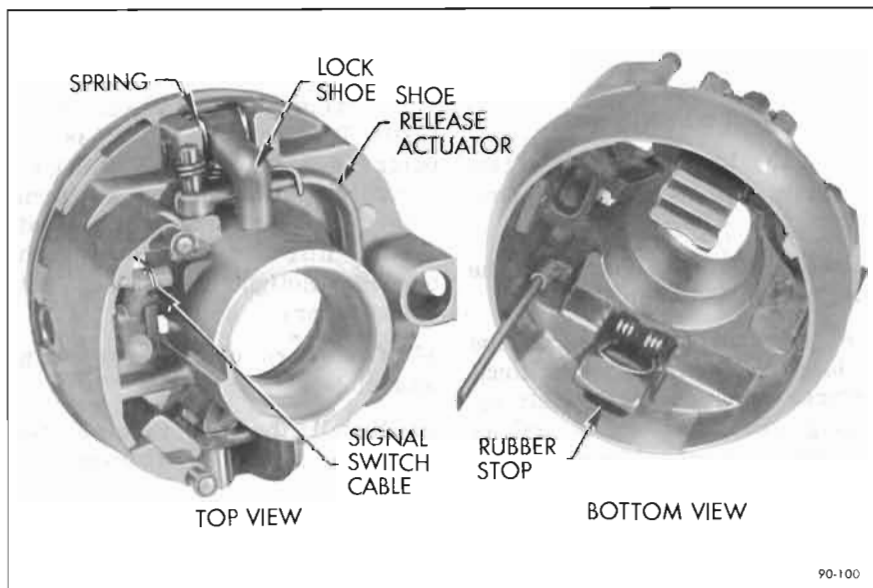

Figure 90-100—Actuator Assembly
4. If lock shoes were removed from actuator, install the springs on the upper end over lock shoes, then install the shoes in the actuator and retain with the pins. See Figure 90-100.